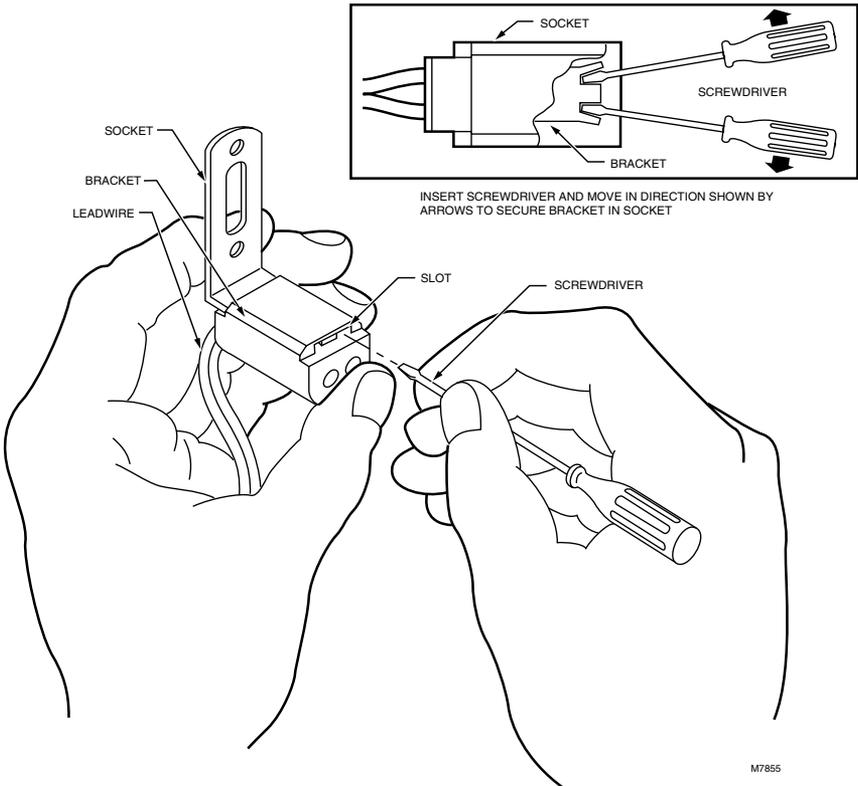

Fig. 4. Insert screwdriver to secure bracket in socket.
- 3 While holding the mounting bracket in the slot, insert the screwdriver in the other end of the slot (Fig. 4). Bend the screwdriver first to the left, then to the right, to crimp the end of the mounting bracket and hold it in position.